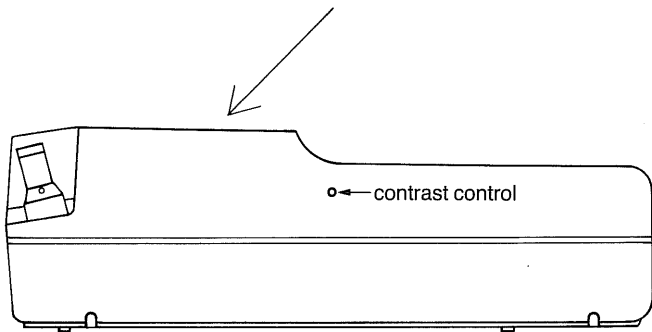

Fig. 2-1 Normal viewing angle. The contrast can be adjusted by means of the contrast control (in hole in side of set).
- the viewing angle (fig. 2-1)